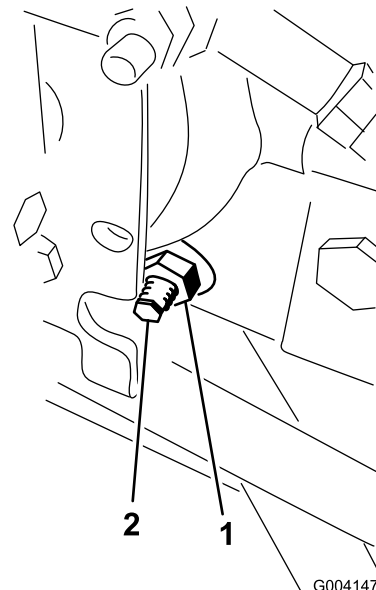

Figure 65
3. On the right side of the hydrostat, loosen the locknut on the traction-adjustment cam (Figure 65).